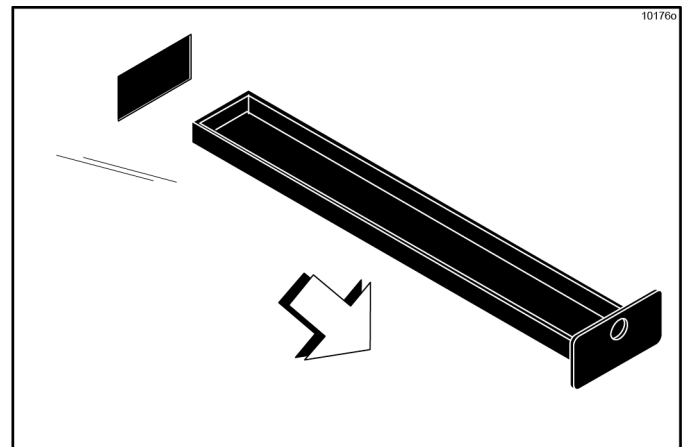

Figure 6-57
- Remove all drip pans. Take them to the sink for cleaning. (See Figure 6-57.)